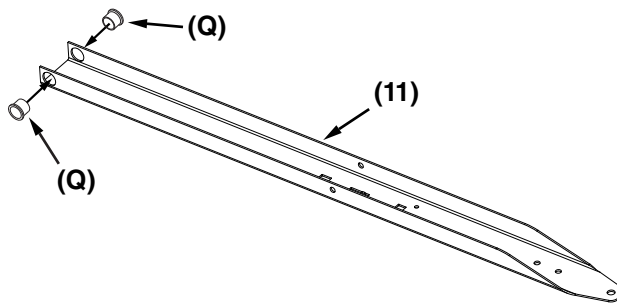

Figure 11
STEP 11 (SEE FIGURE 11): Insert two flanged bearings (Q) into the tongue (11) as shown below.